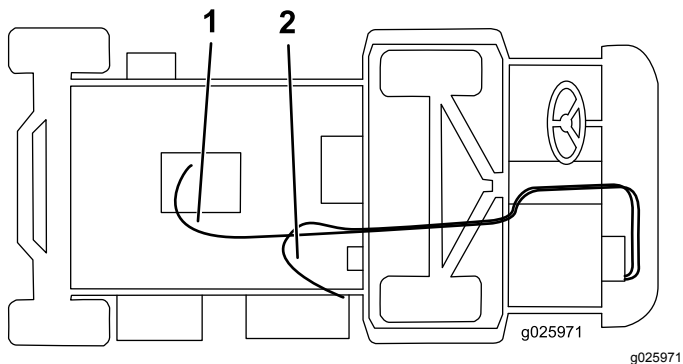

Figure 11
6. Connect the long hose to the heater valve with a hose clamp, and route it under the machine, over the axel, and to the straight fitting (Figure 11).
7. Connect the shorter hose to the white fill tee with a hose clamp, route it through the R-clamp on the heater bracket, and connect it to the tee fitting in the lower radiator hose with a hose clamp (Figure 11).